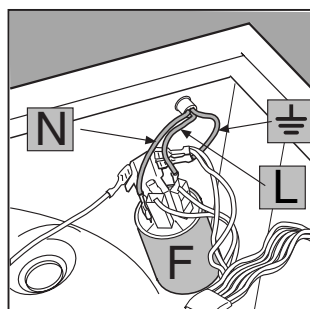

Fig. 4
- Disconnect the wires from the radio interference suppressor F [fig. 4] noting as to their position (**Blue=N** wire; **Brown=L** wire) leaving the earth wire until last \perp .